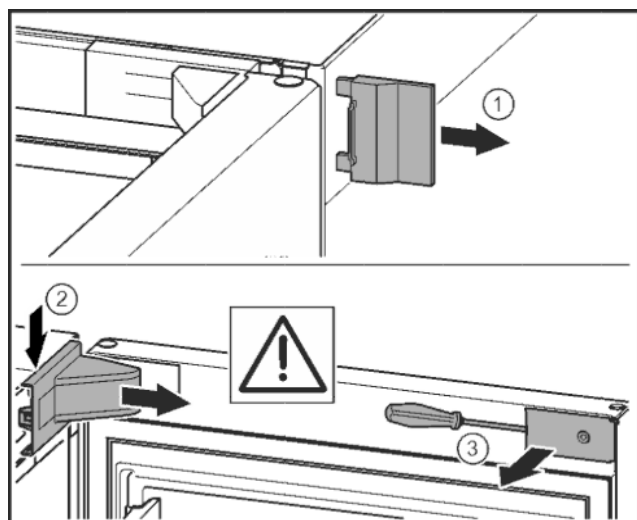

Fig. 7
- Remove the outer cover. Fig. 7 (1)
- Click and release the bearing bracket cover. Remove the bearing bracket cover. Fig. 7 (2)
- Unlatch the cover plate with a slotted screwdriver and swivel it to one side. Fig. 7 (3)